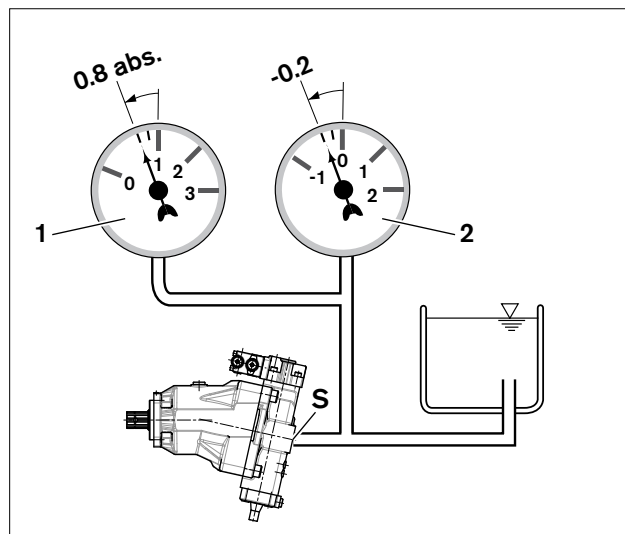

Fig. 7: Suction pressure
- Make certain that a minimum suction pressure of 0.8 bar absolute is present at port "S" during operation and on cold starts in all installation positions and installation locations for the axial piston pump, see Fig. 7. See data sheet for additional values.